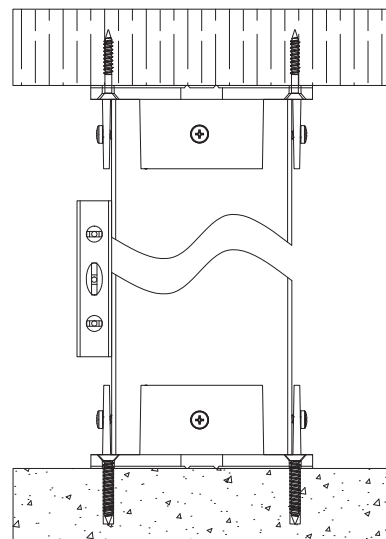

Fig. 10
Step 7 - Fasten the mounting plates to the floor and ceiling using the supplied eight #8 x 1-1/4" Phillips Drive Type Flat Head Nibs Screws. (Fig. 4) Make sure the pipe is leveled. (Fig. 10)